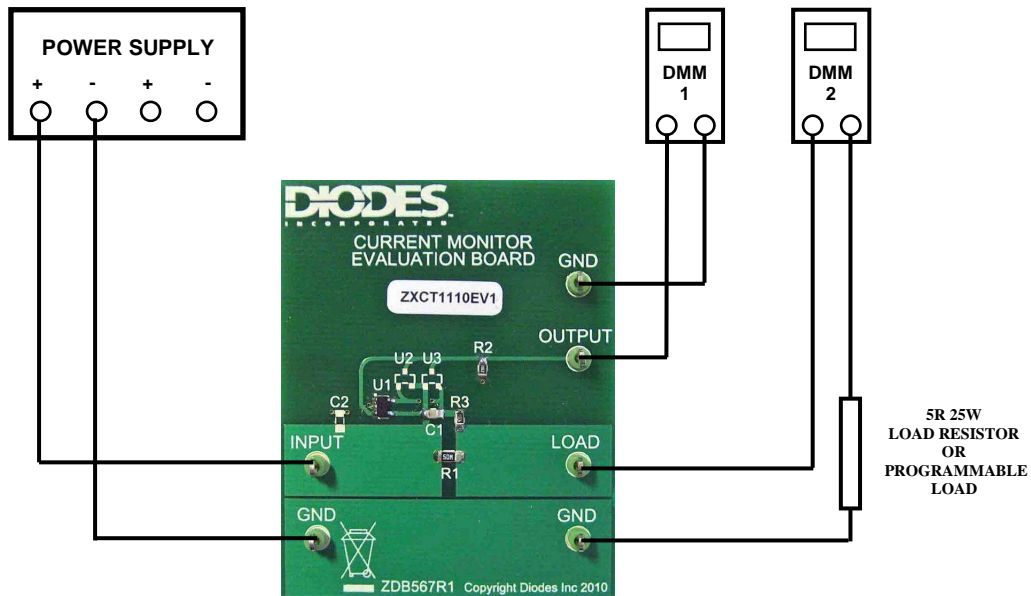

Fig. 3 – ZXCT1110EV1 Demonstration Setup
As can be seen from the test setup in Figure 3, the ZXCT1110EV1 is designed to connect a power supply between test points TP1 and TP3, a load and DMM between test points TP4 and TP5, and a DMM to measure the output voltage between test points TP6 and TP7.
2. Connect up the ZXCT1110EV1 board to the equipment as in **Figure 3** below. Set DMM1 to measure DC voltage. Set DMM2 to measure DC current.